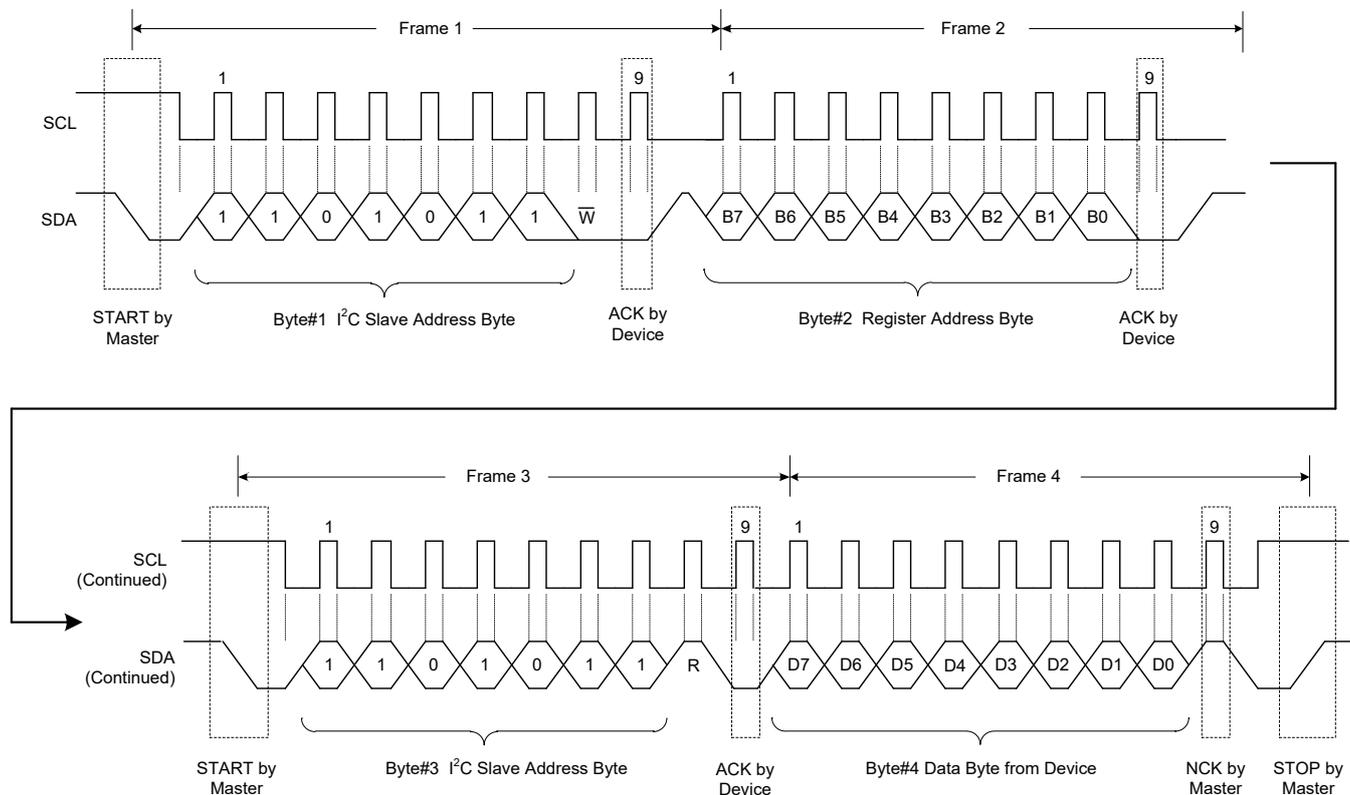

Figure 25. A Single Read Transaction
**READ:** If the master wants to read a single register (Figure 25), it sends a new START condition along with device address with R/W bit = 1. After ACK is received, the master reads the SDA line to receive the content of the register. Master replies with NCK to inform slave that no more data is needed (single read) or it can send an ACK to request for sending the next register content (multi-read). This can continue until an NCK is sent by master. A STOP must be sent by master in any case to end the transaction.